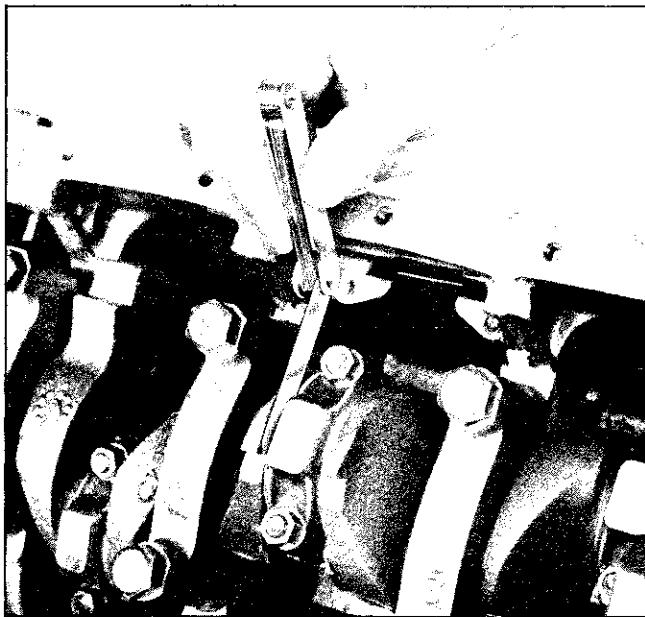

Fig. 6-50 Checking Connecting Rod Side Clearance
5. Check connecting rod end clearance between connecting rod cap and side of crankpin (Fig. 6-50). Clearance should be .008" - .014". If clearance is more than .014", replace connecting rod.